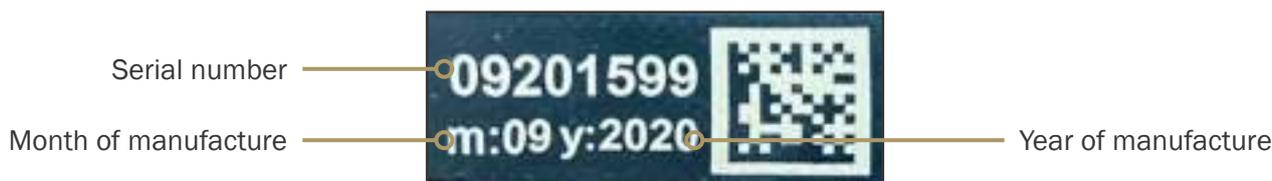

Figure 6.4: Serial number of a lifting bag.
The example in Figure 6.4 shows a lifting bag manufactured in September (09), year 2020